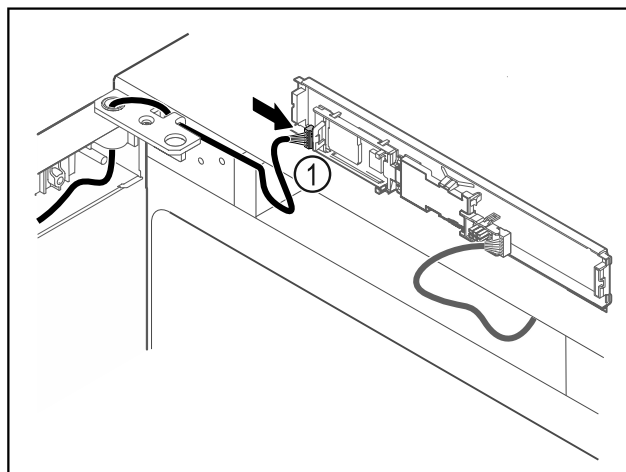

Fig. 60
- ▶ Connect the plug Fig. 60 (1) to the circuit board.